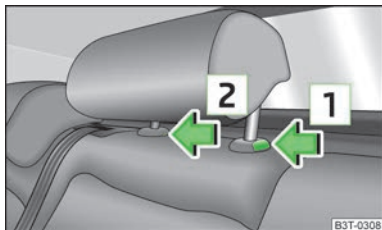

Fig. 59
- Press the locking button in the direction of arrow **1** » Fig. 59, simultaneously press the locking button into the opening **2** using a flat screwdriver with a width of maximum 5 mm and pull out the head restraint.